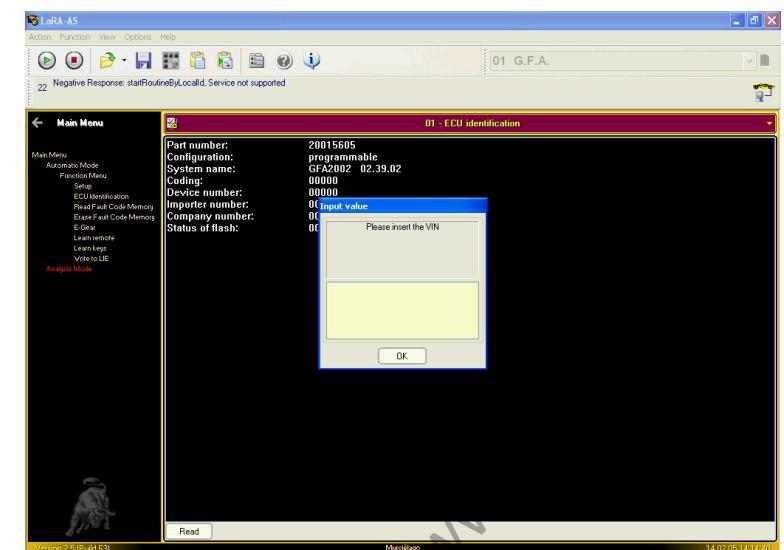

Fig.18
- Enter the vehicle code on the screen (Fig.18).